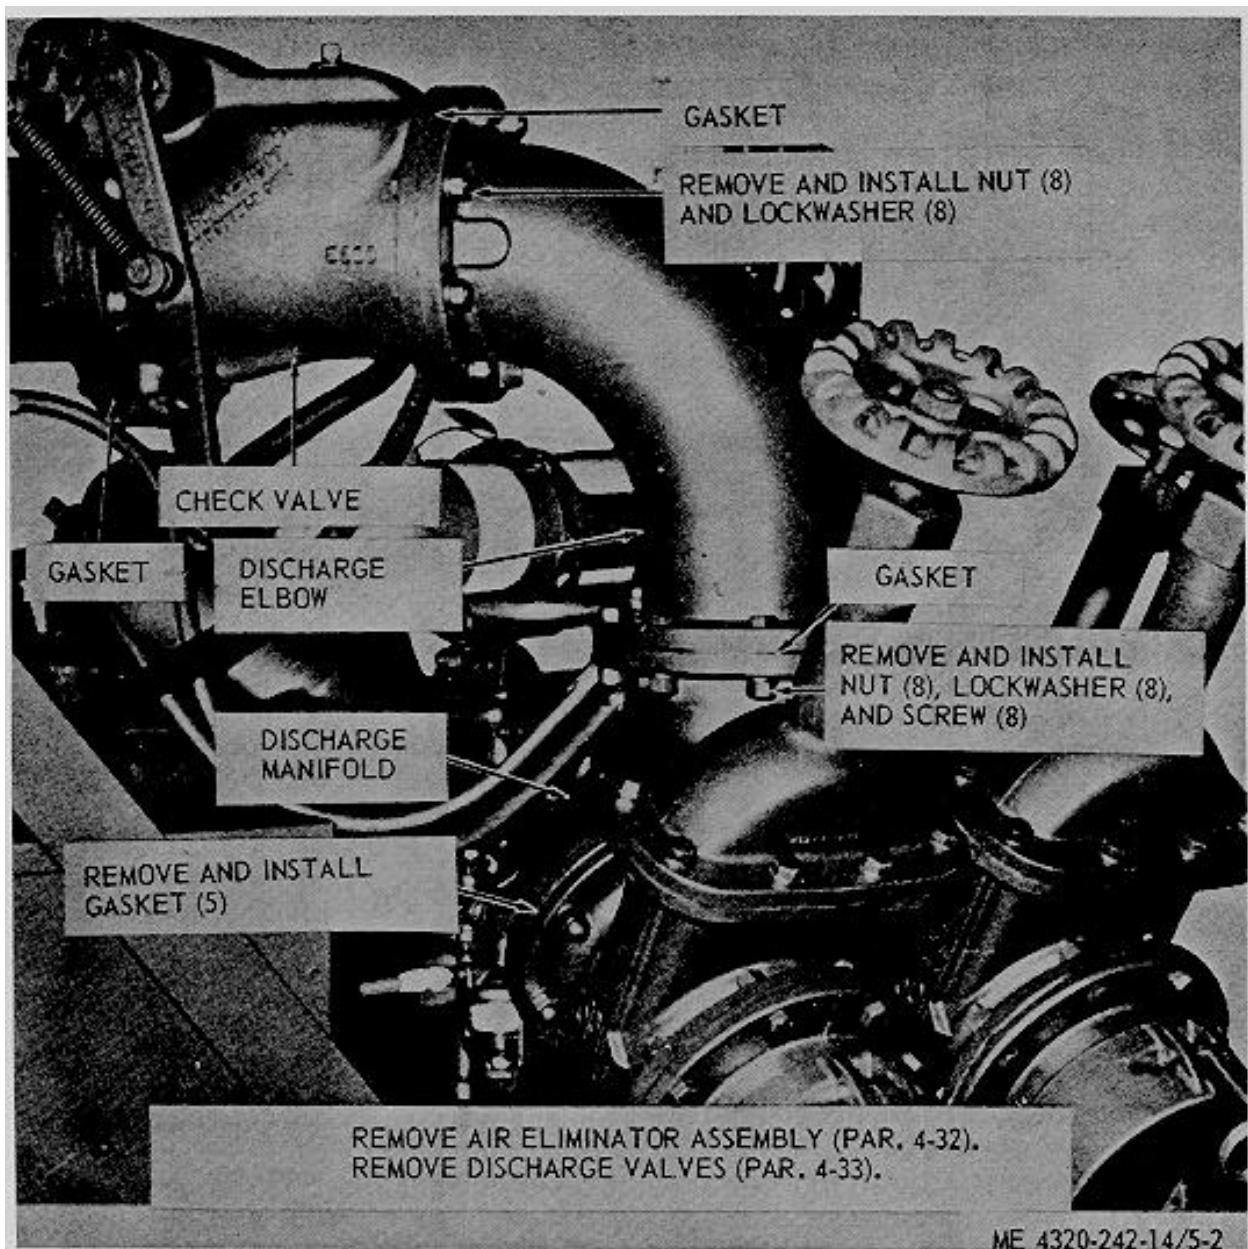

Figure 5-2. Discharge manifold elbow and check valve. removal and installation.
a. *Removal.* Refer to figure 5-2, and remove the
b. *Installation.* Refer to figure 5-2, and install the check valve, elbow, and discharge manifold.
(10) Remove the discharge manifold, elbow and check valve. (fig. 5-2).